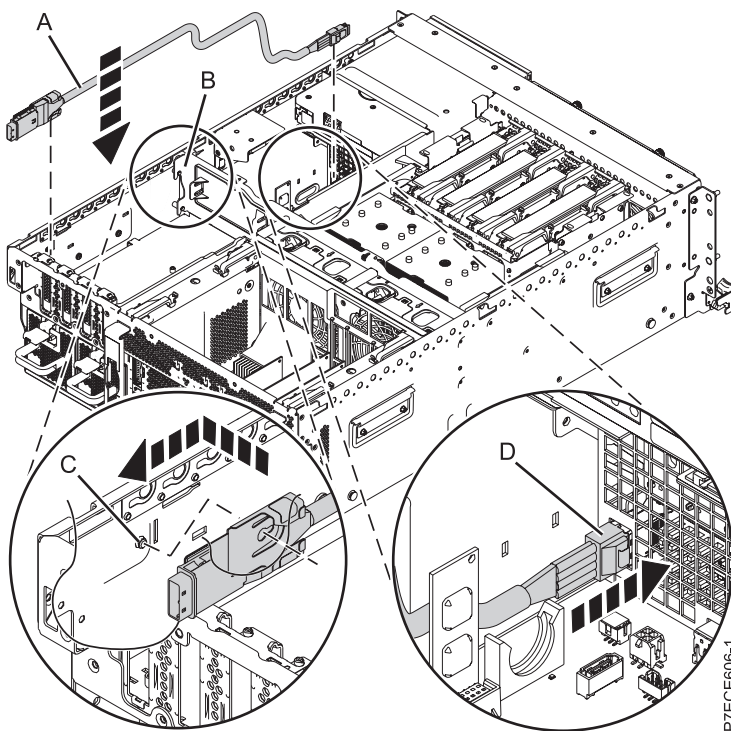

Figure 27. Installing the external SAS port
11. Connect the SAS shroud of the SAS cable (**A**) to the external SAS connection port on the system backplane, at the rear of the system, until it snaps in place, as shown in Figure 27.